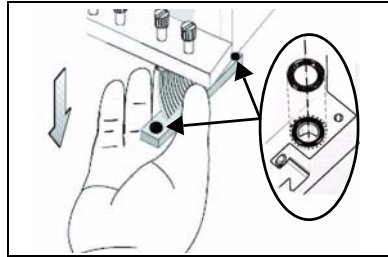

Figure 7-43: O-ring seals on the print head
15. Inspect the replacement head, and make sure that the O-ring seals are in place (see figure 7-43).